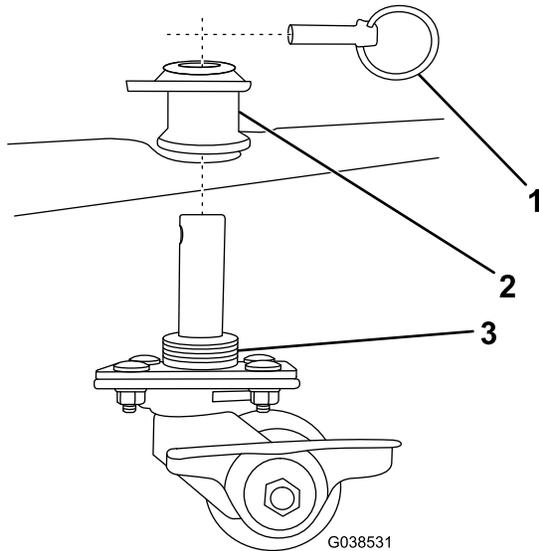

Figure 10
4. Slide the large caster shoes into the rear shoe holders on the plow and secure them with a quick pin (Figure 10).